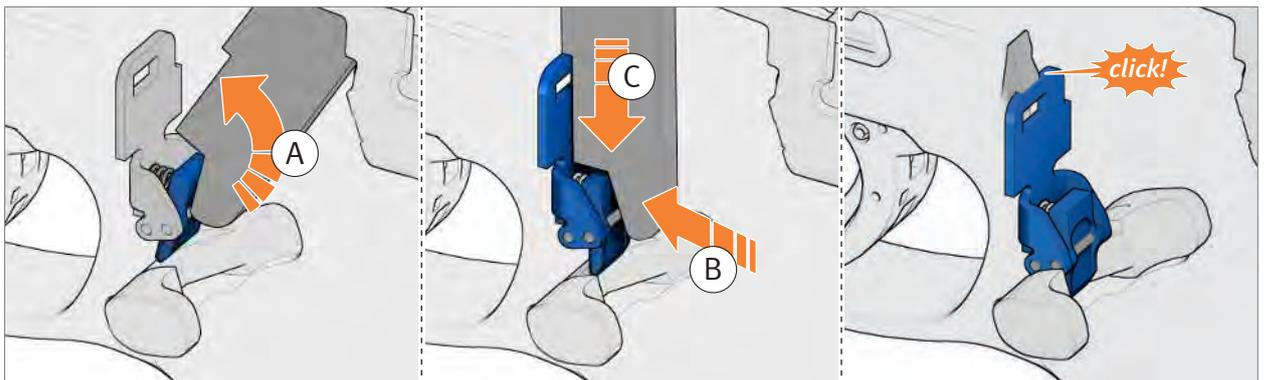

Fig. 32: Latch in the magazine catch
4. Press the detent piece on the magazine catch with the tool and hold it down (Fig. 32).
5. Push the magazine catch downwards until the magazine catch latches (Fig. 32).